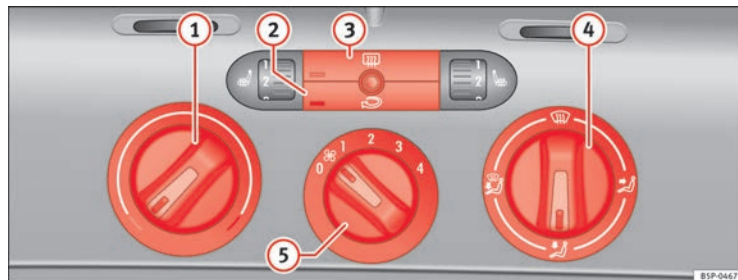

Fig. 128 Heating controls on the dash panel
- Using the controls ⇒ fig. 128 (1) and (4) and the control (5) you can set the temperature, air distribution and the blower speed.
- To switch a function on or off, press the appropriate button (2) or (3). When the function is activated, the display window in the lower left of the button is lit.